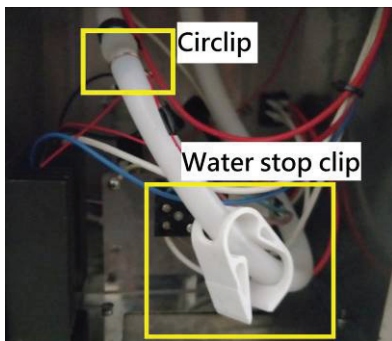

Figure 1
3. A white water pipe tube and hose shutoff clamp can be seen inside of brewer. (Figure 1)